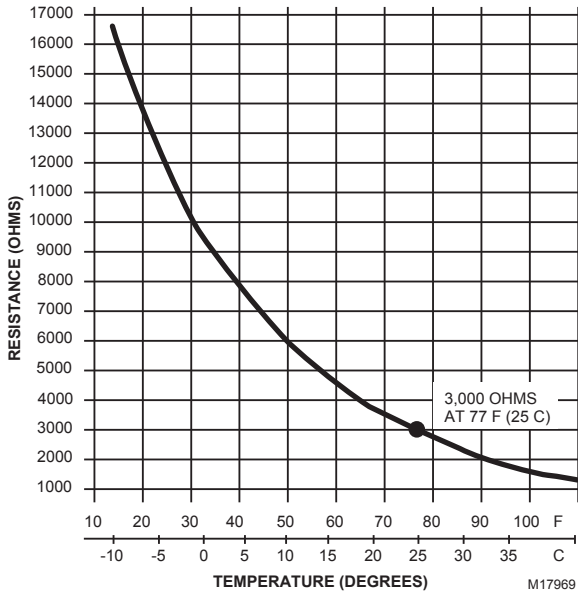
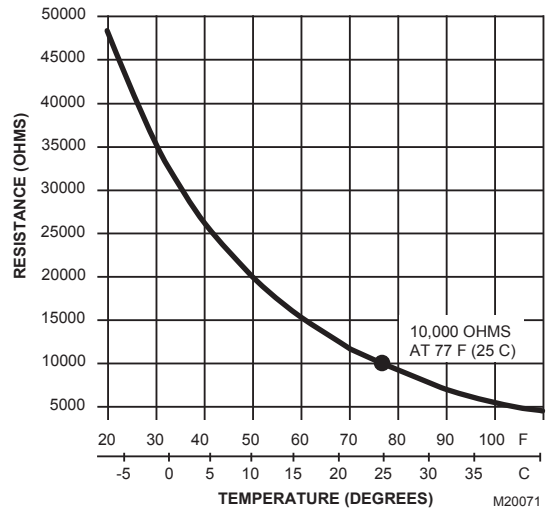

Fig. 7. C7150B1004 Sensor resistance temperature.
Fig. 8. C7150B1046 Sensor resistance temperature.
3. Nominal resistance measurements should be in accordance with the resistance/temperature curves shown in Fig. 7 and Fig. 8.